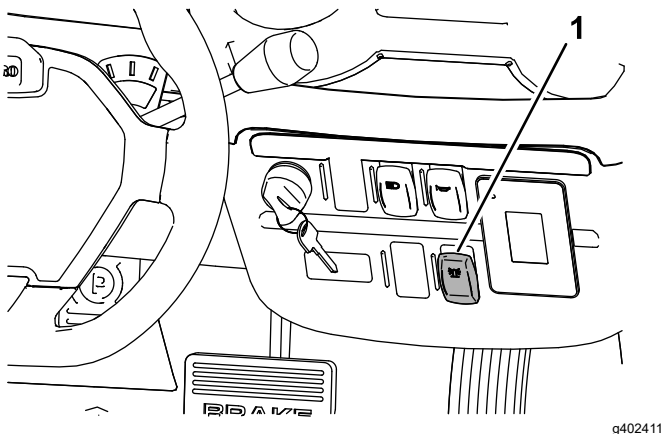

Figure 6
- To illuminate the beacon, press on the upper part of the beacon switch (Figure 6).